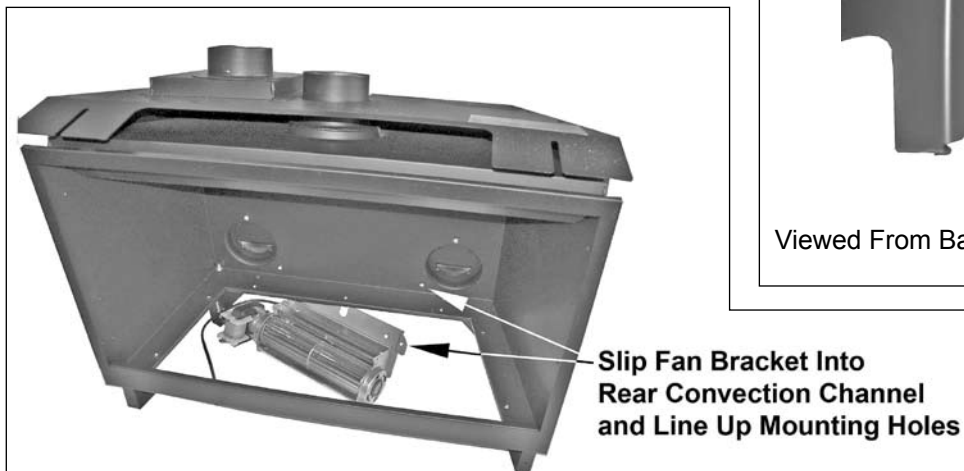

Fig. 14 Install Fan and Bracket Into Rear Convection Channel
- With Burner Module removed, install fan unit into rear convection channel on heater (see Fig. 14).